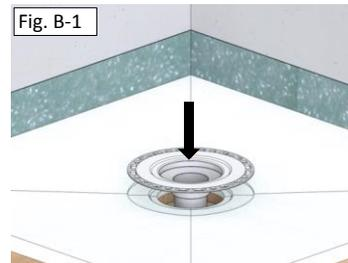

Fig. B-1
**Note:** Tisto Drain must seat properly into the molded contour of preformed tray to be used with preformed tray. (Fig. B-1) (Preformed tray not supplied.)